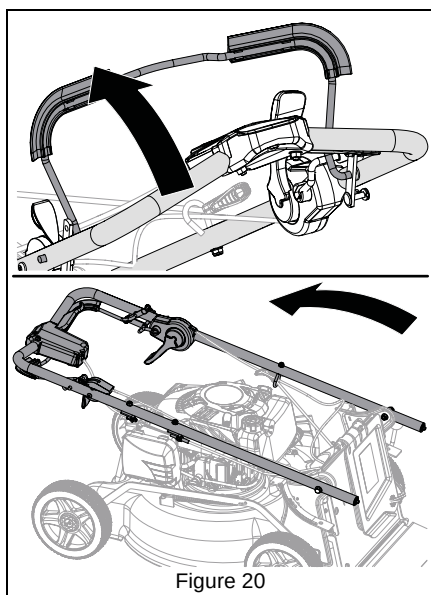

Figure 20
- For storage, rotate handlebar completely forward. See Figure 20.